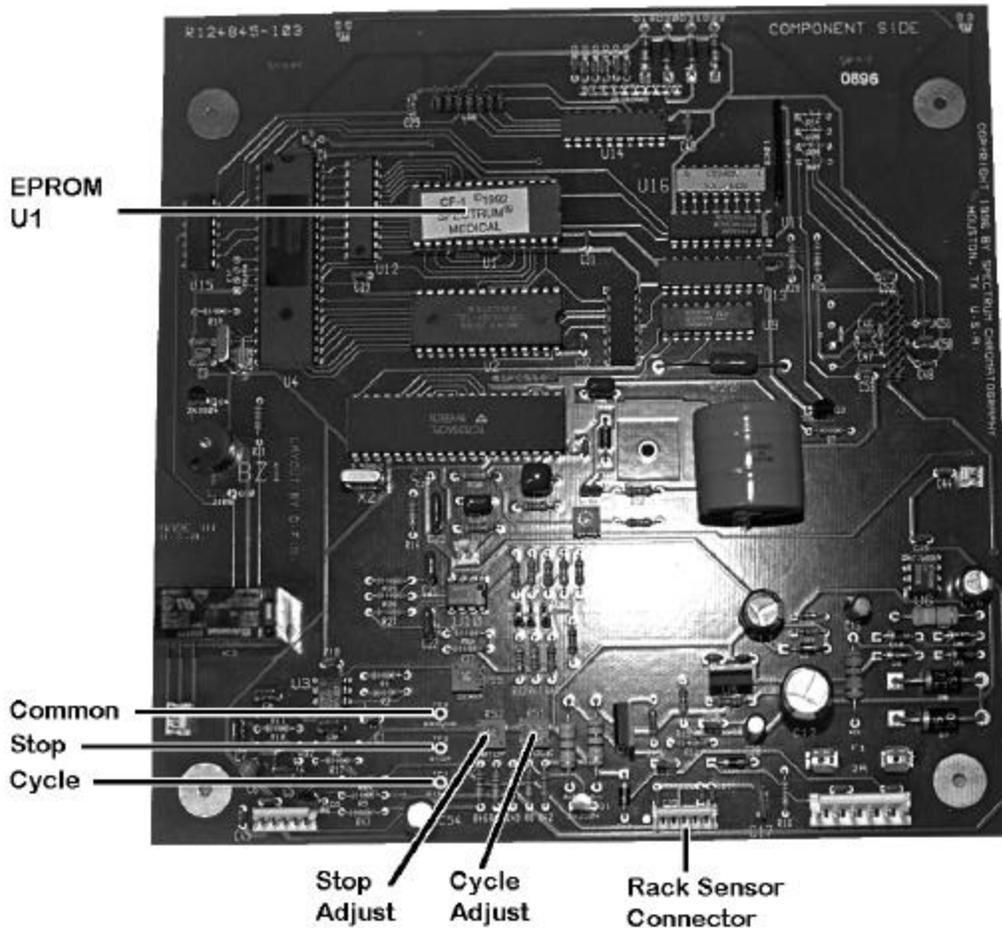

Figure 5-4. Circuit Board Layout
2. Disconnect the sensor plug (Figure 5-4) from the circuit board.
- Use an electronic voltmeter to measure the sensor response, connect the red (+) lead to the cycle test-point on the circuit board (Figure 5-4) and the black (—) lead to the common test-point.
- Turn the drive shaft on the case top to cause the racks to move. Be careful to only move the racks in the forward (normal) direction. Attempting to move the racks backward may cause them to break. Observe the voltage at the cycle test-point as the racks move. The racks have holes in their sides which are detected by the cycle sensor. As a hole moves in front of the sensor, the voltage measured should drop to less than 1.5V; as a solid moves in front of the sensor, the voltage measured should increase to at least 3.8V. Adjust the cycle adjustment (Figure 5-4) until these levels are met. If adjustment the cycle adjustment does not allow you to meet both level requirements, you will need to either clean the sensor or replace it.
- 8 The stop sensor should read less than 1.2. If necessary, use the stop sensor adjustment (Figure 5-4) to reduce this voltage. Advance the racks until a white rack is in position. The stop sensor voltage should now be greater than 3.8V. If the stop sensor voltage is not greater than 3.8V, use the stop sensor adjustment to make it so and repeat step 6 (be sure to reset the meter leads). If you cannot obtain both the 1.2V and 3.8V limits with a single setting you will need to either clean or replace the rack sensor.
2. Locate U1 in Figure 5.4. Use a small screwdriver to alternately pry each end of the IC from its socket until it is free.